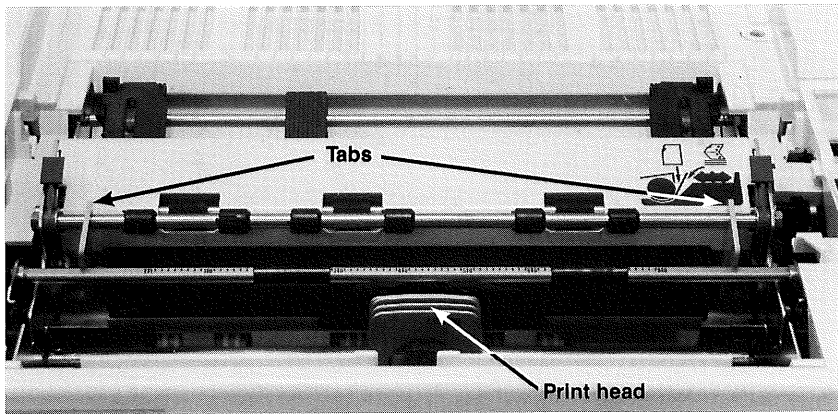

Figure A5.
5. Move the print head to the center of the printer. Twist the two tabs which secure the paper bail clockwise to remove. See Figure A5.